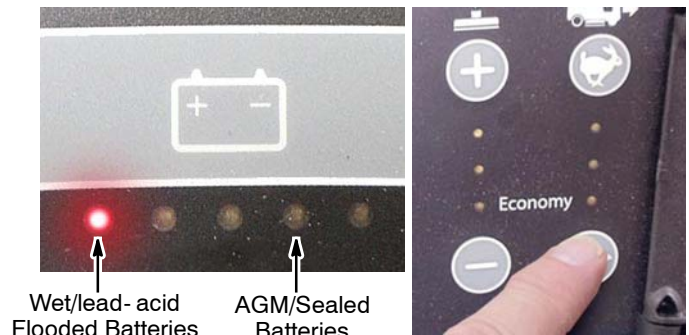

Fig. 9
2. The battery discharge indicator LEDs indicates battery selection. (Figure 9). Press the propel decrease (turtle) button to advance to other battery type. Turn key off to save selection.